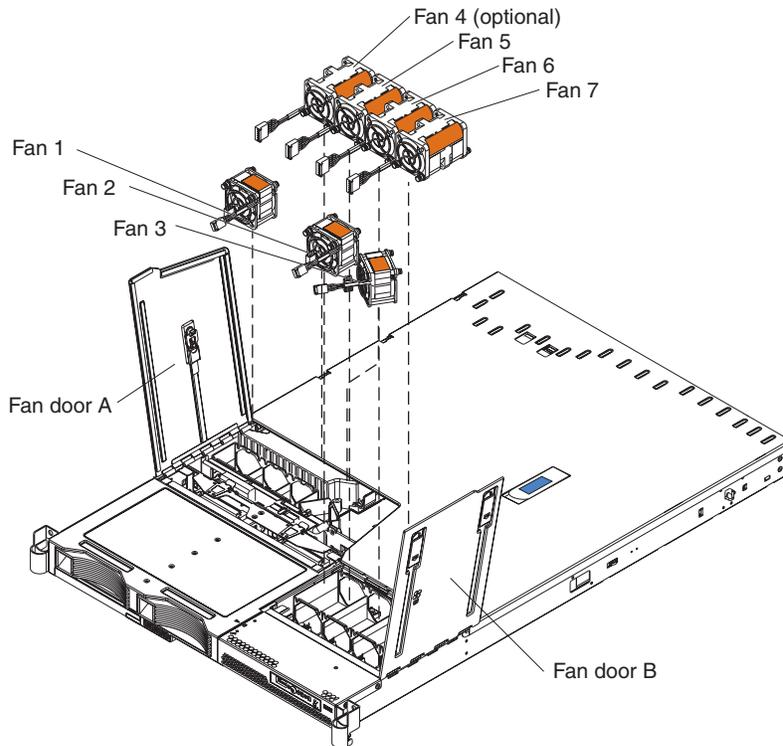

Figure 36. Hot-swap fan locations
- Figure 36 on page 44 shows the locations of the hot-swap fans.